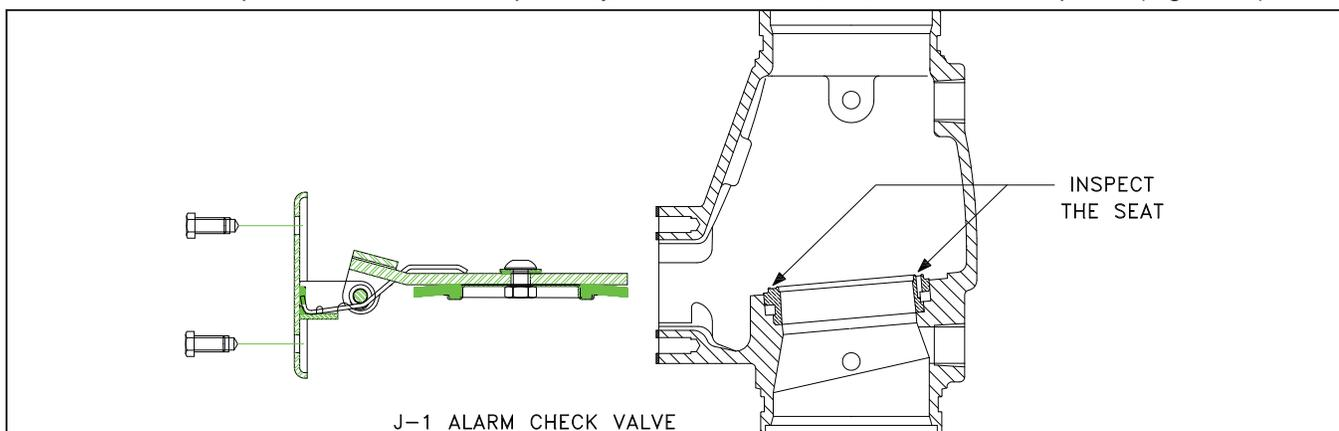

Figure 47
5. Inspect the water seat. Wipe away all contaminants, dirt, and mineral deposits (Figure 47).